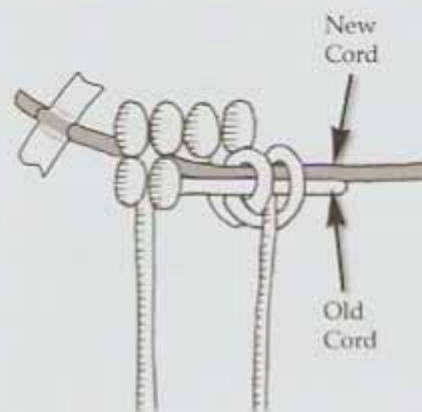

Fig. 6
3. Adding a horizontal (runner) cord with a **DHH** - Position the new replacement cord behind the piece so that the long end emerges wherever you need to replace the running cord. Tape the short end of the replacement cord to the board to hold it in place. Line up the original runner cord with the replacement cord. Group the old and new runner cords together as one and make **DHHs** around them with 2 or 3 of the vertical **KCs** (see Figure 6). The diagram shows the **DHH** before it is tightened into position. Bring the old runner cord to the back of the piece and out of the way. Continue knotting the piece using only the new runner cord as the **AC**.